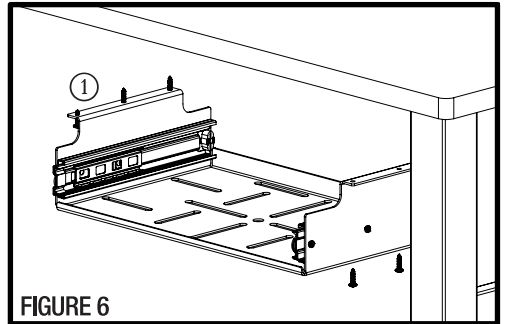

FIGURE 6
8. Attach the ① Drawer Base to the underside of the table using (3) Panhead Phillips Wood Screws through each side of the Drawer Base into the Table. **NOTE:** Be certain the back of the Drawer Base is at the rear of the Table. **Figure 6.**
9. Line up the Drawer Slides on the ② Drawer with the Slides on the ① Drawer Base and slide the Drawer in.